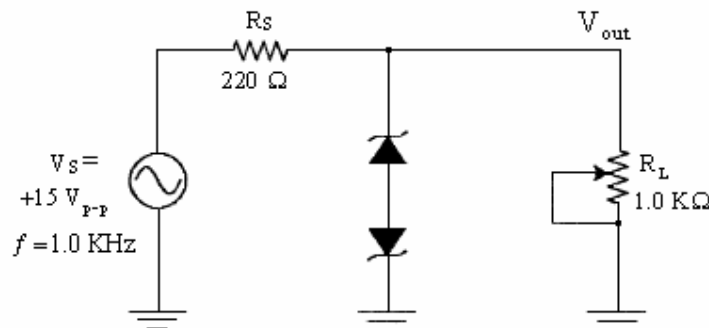

Fig.6: Modified Zener Voltage Regulator
12. Modify the regulator circuit by adding a second zener diode as shown in Figure 6 and changing the source to a $15\text{ V}_{\text{p-p}}$ sine wave at 1.0 KHz . Set the $1\text{ K}\Omega$ potentiometer to its maximum resistance. Sketch the output waveform and label voltage and time on your sketch.